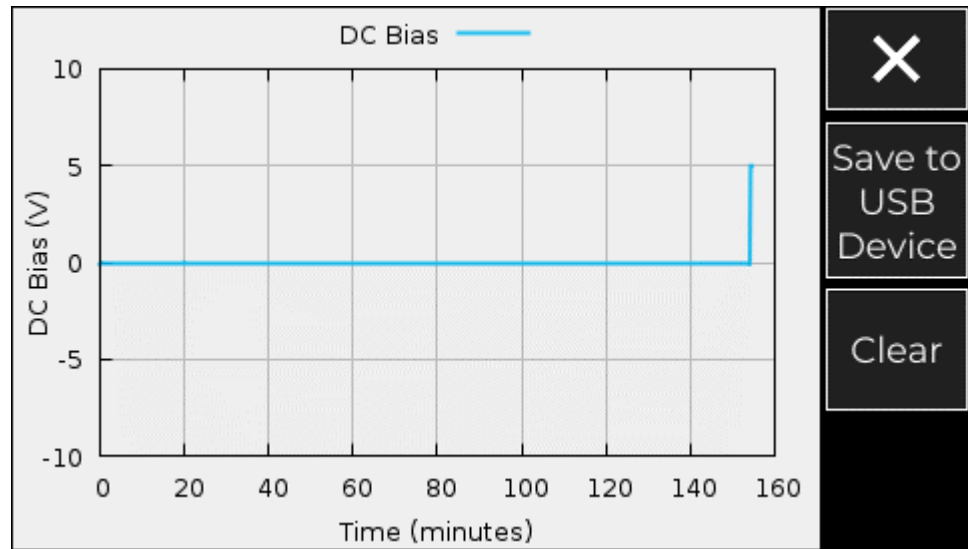

Figure 12: DG MBC DC Bias tracking
- **Graph:** Useful to save DC bias value over time for stability testing (Figure 12).